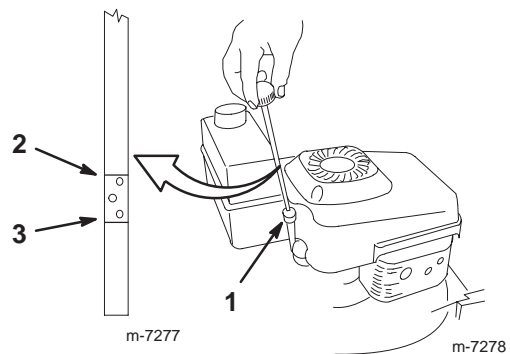

Figure 6
Before each use, ensure that the oil level is between the Add and Full marks on the dipstick (Fig. 6).
2. Clean around the dipstick (Fig. 6).
6. Read the oil level on the dipstick (Fig. 6).